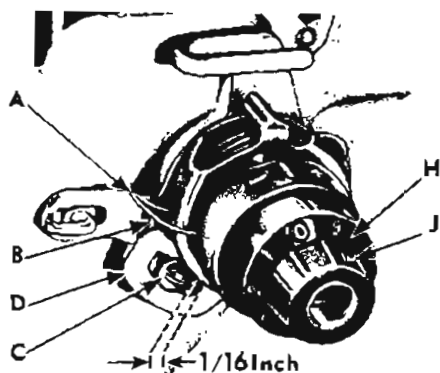
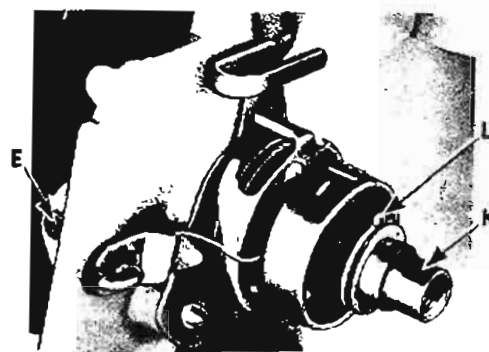
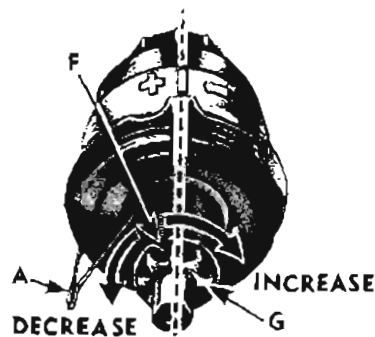

Fig. 14. Setting Stroke of Take-up Spring
Fig. 15. Stud Set Screw and Tension Adaptor
Fig. 16. Setting the Tension
### SETTING THE STROKE: (See Fig. 14)
**NOTE:** Fig. 14 shows normal setting with right end of regulator slot  $1/16$  to  $3/32$  inch to right of screw head C.
Tension on take-up spring A, Fig. 14 should be just sufficient to take up slack of needle thread until point of needle reaches fabric.
Loosen stud set screw E, Fig. 15 and remove entire tension assembly. Turn numbered dial to "0", releasing all tension. Hold tension assembly so that component parts are in position shown by dotted line in Fig. 16. Place spring end F in groove
Replace tension assembly, draw spring A so that it rests on regulator stop B, Fig. 14 and recheck tension. Tighten stud set screw E, Fig. 15.
3. Turn tension dial H, Fig. 14 over toward left as far as it will go. At this setting there should be a slightly perceptible tension on needle thread (between 5 and 15 grams on Tensometer).
1. Loosen set screw J, Fig. 14 and remove tension dial H.
2. Place thread between tension discs and turn adaptor K, Fig. 15 as required, to obtain a slightly perceptible tension on needle thread (between 5 and 15 grams on Tensometer).
3. Replace tension dial H, Fig. 14 so that stop on inside of dial is to right of stop washer extension L, Fig. 15.
4. Tighten set screw J, Fig. 14.